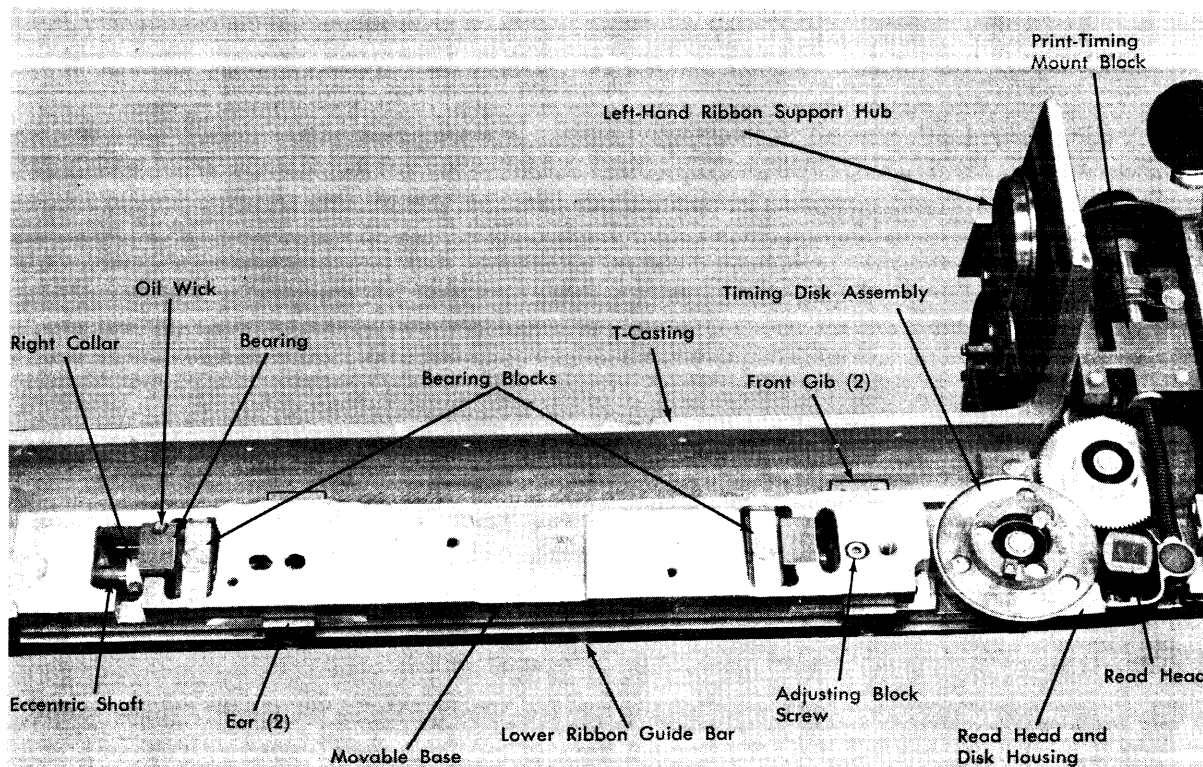

Figure 15. Movable Base
5. Remove the read head (Figure 15).
1. Remove the movable base. See Figure 15.
4. Loosen the screws in the collar (See Figure 15) that holds the right bearing, and slide the collar to the right.
1. Tighten the two front gibs (See Figure 15) that hold the movable plate to the T-casting (screws under T-casting).